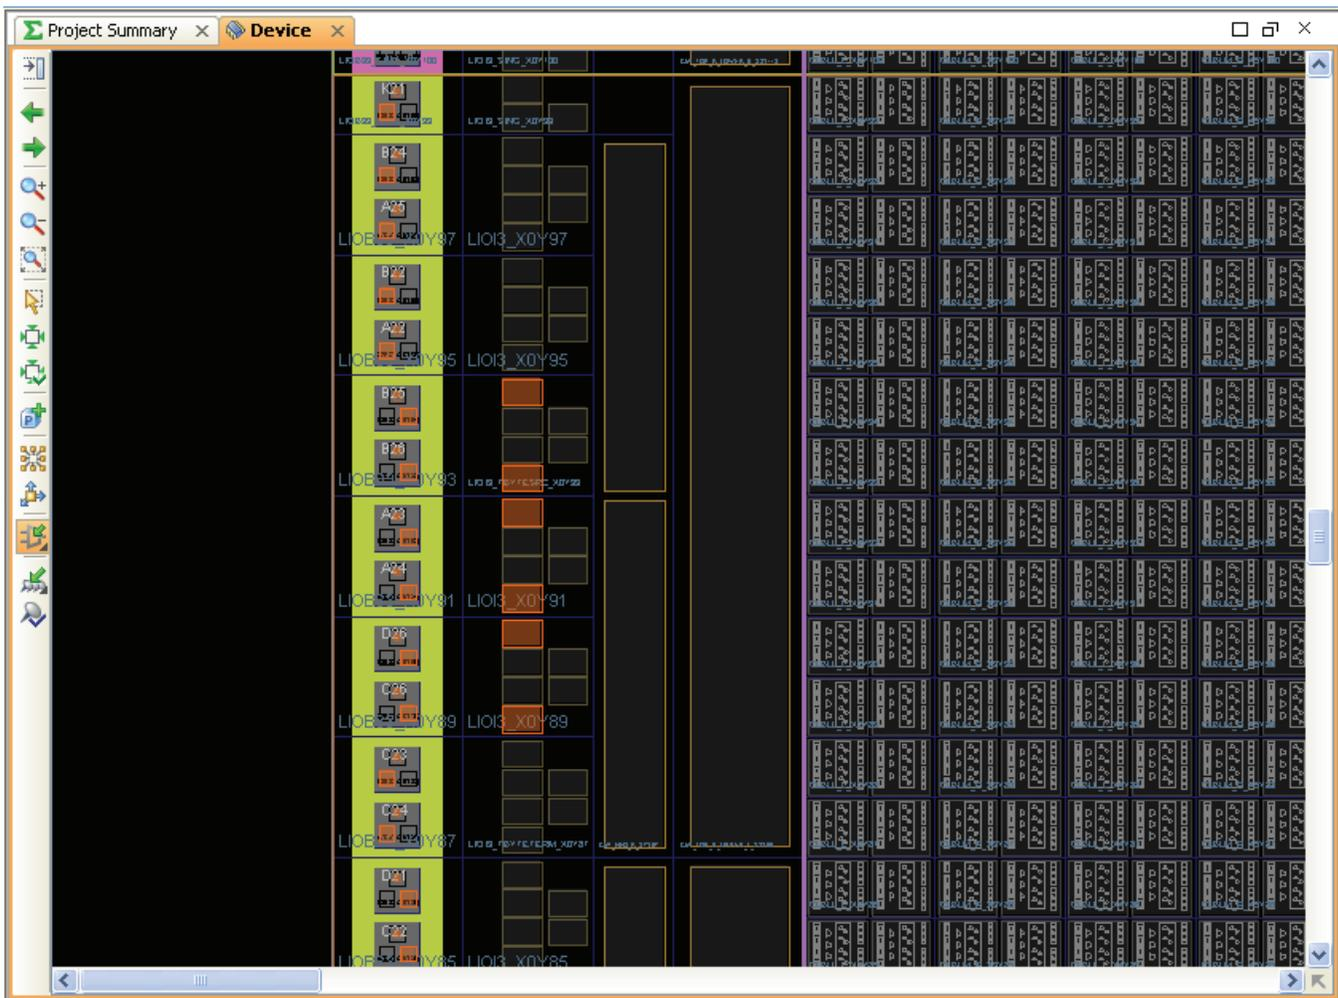

Figure 4-42: Device View
- The Device view displays the FPGA device resources including the FPGA logic, clock regions, I/O pads, BUFGs, DCMs, Pblocks, instance locations, and net connectivity. The locations on the device where specific logic can be assigned are called *Sites*. Figure 4-42 shows a Device view.